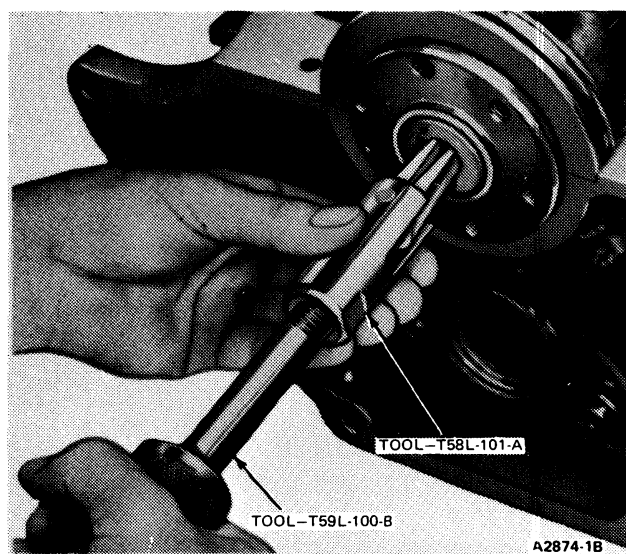

FIG. 2 Removing Clutch Pilot Needle Bearing Assembly
2. Using Tools T59L-100B and T58L-101-A or equivalent, remove the pilot bearing (Fig. 2).